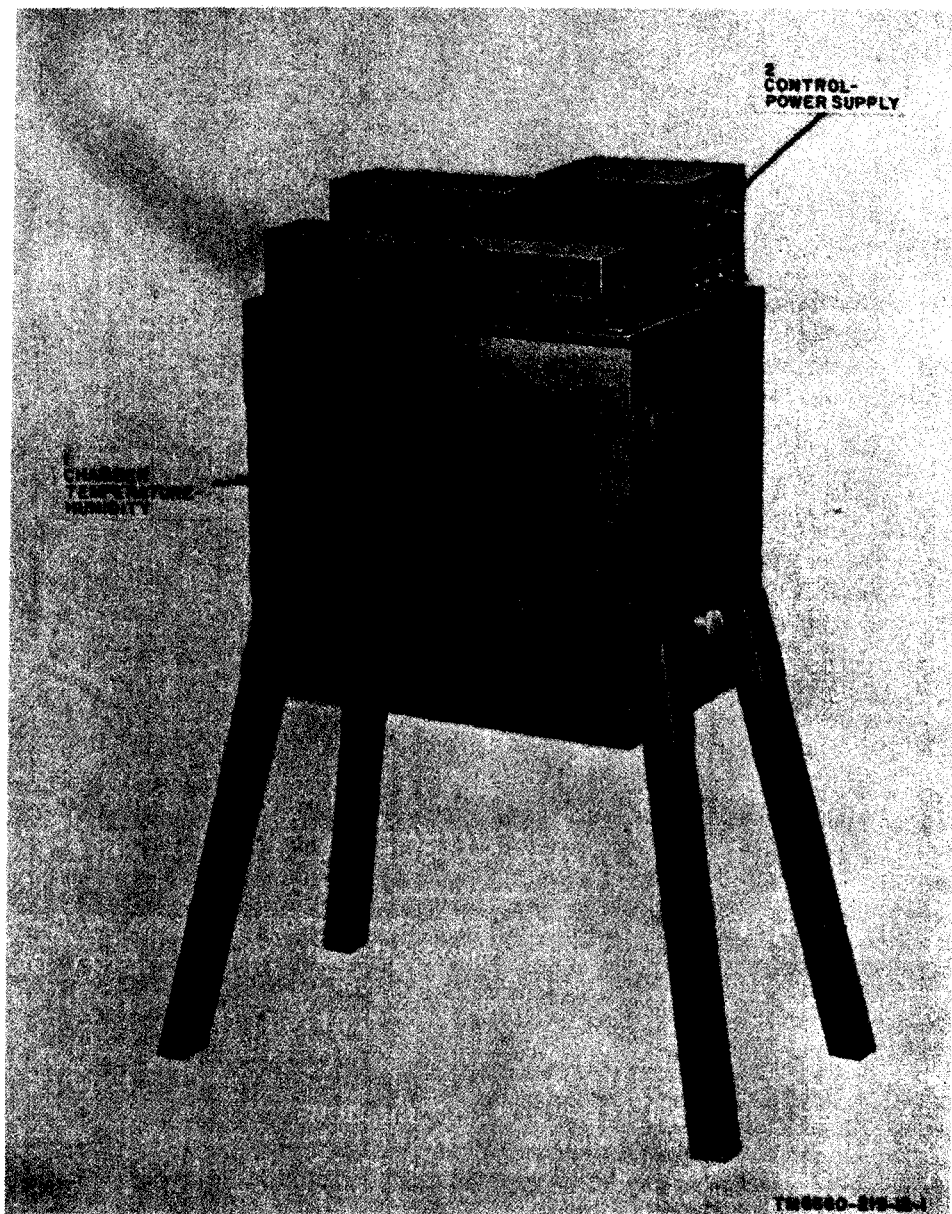

Figure 1. Radiosonde Baseline Check Set AN/GMM-1(), less carrying case, cable assemblies, and running spares.*
a. *Purpose.* Radiosonde Baseline Check Set AN/GMM-1(*) (fig. 1) provides a chamber with a known temperature and humidity that remain constant enough under controlled conditions for preflight testing of radiosondes.